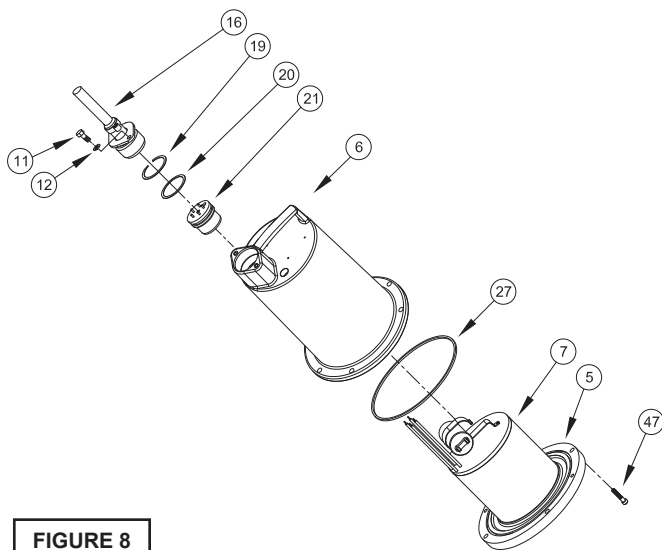

FIGURE 8
Pull the terminal block (21) out of the housing (6) using a T-bolt or a pair of pliers and a .25-20 screw in the threads of the terminal block (21). Be sure to leave slack on the motor leads connected underneath. Use needle nose pliers to pull each female connector off of the pins on the underside of the terminal block (21), see Figure 8. The unit voltage should be noted. Repeat cable and terminal block removal procedure for any control cables (56) if equipped. Remove socket head cap screws (47). Vertically lift the motor housing (6) from seal plate (5) by lifting handle (13). Inspect square ring (27) for damage or cuts.